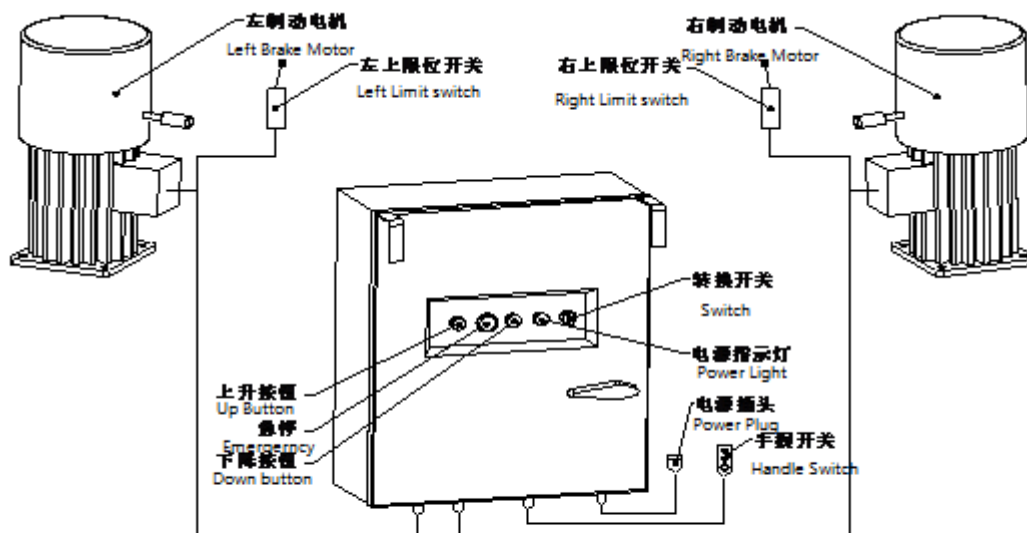
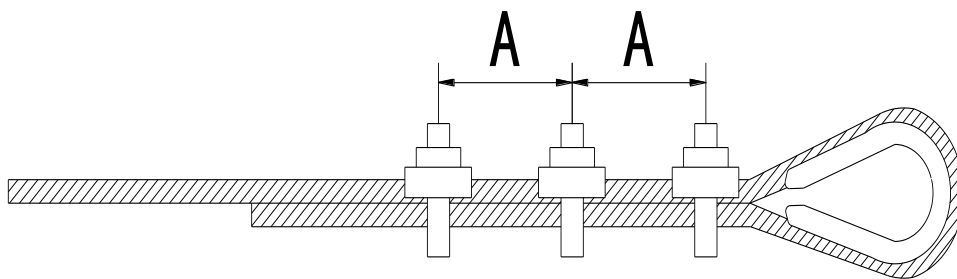

Figure6. connection diagram of electrical control system
Figure7. Wire rope clip correct installment
The electric control system consists of an electric appliance control box, an electromagnetic brake motor, an upper limit switch and a hand hold switch. (see Figure6)
3.5.1 The power supply adopts the three-phase five wire system, and the five core cable is connected with a waterproof type power plug to enter the electrical appliance box, and then the three-phase leakage circuit breaker is connected with the power supply. (see Figure6: electric control principle diagram). Please connect the power to the three-phase five wire system.
In order to facilitate the construction, in the electrical box for the user set up a backup power cord terminal. Below 500W of lighting, the power of the power tool can be connected to the terminal. Refer to Figure6 and Figure7 for installation.
3.6.3 The fixing method of the end of the wire rope is carried out according to the regulation of GB5144-1994 (see Figure7). The U-screw buckle is on the tail section of the steel wire rope, and the clamp holder is buckled on the work section of the steel rope, and can not be reversed. The wire clips shall not be arranged alternately on the wire rope, with a number of not less than 3EA, spaced at about A 60mm and sequentially secured from the ring.